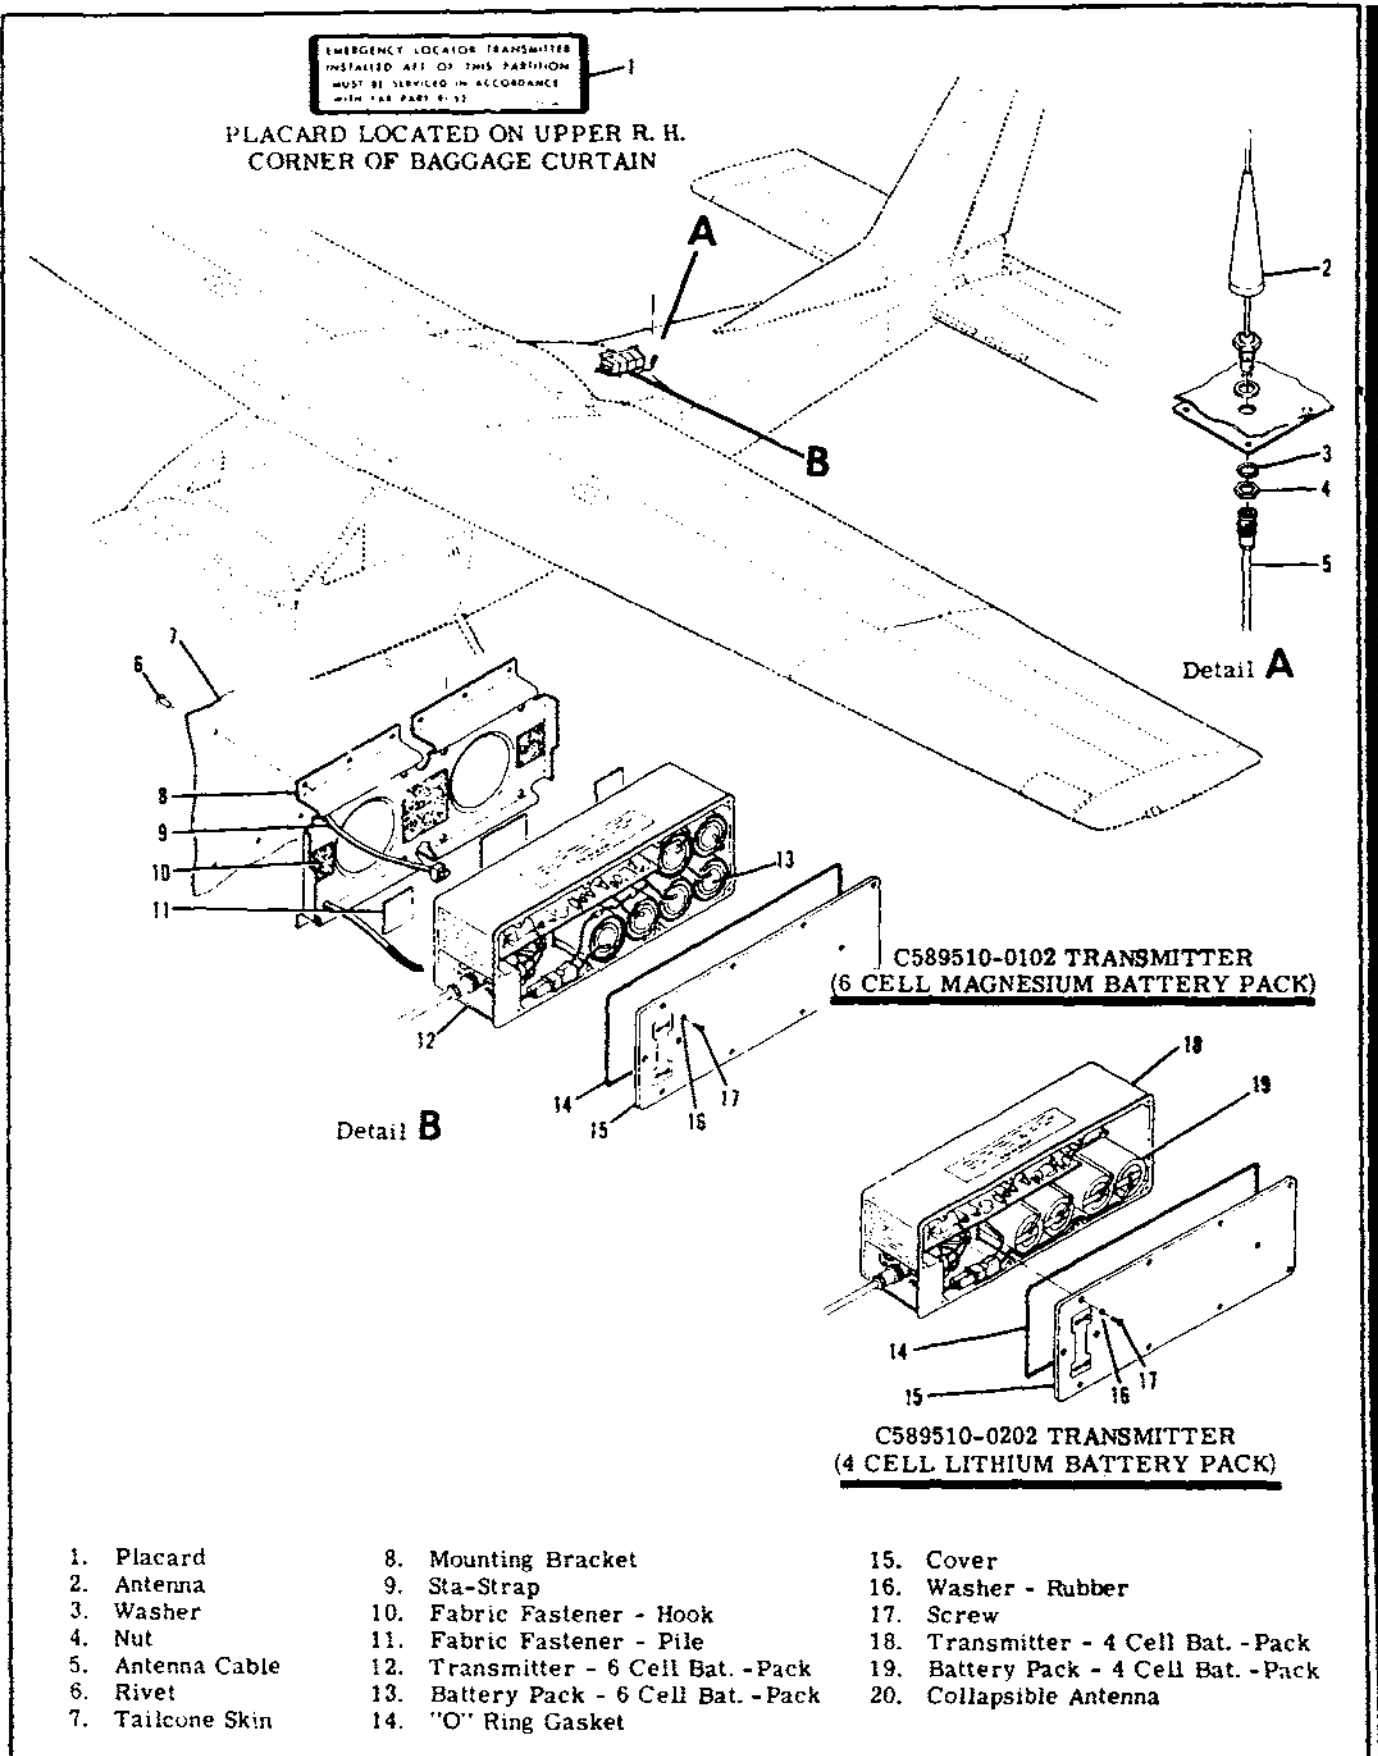

Figure 16-18. Emergency Locator Transmitter Installation
16-101. REMOVAL AND INSTALLATION OF TRANSMITTER. (Refer to figure 16-18.)
- c. When replacing the battery-pack with another 6 cell battery-pack which has a plastic connector attached to the battery leads, merely disconnect the old battery-pack and replace with a new battery-pack, making sure the plastic connectors are completely mated. (Refer to figure 16-18.)